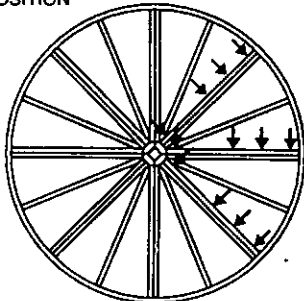

Figure 3.
STEP 3 Place another two pieces together, face down, line up the pre-drilled holes and place the M6X50 bolts through the three outermost and one innermost holes. See Figure 3. **TIGHTEN FINGER TIGHT ONLY AT THIS POINT.** Now make sure all the reflectors are properly joined and flush at each assembly point. **THIS IS VERY IMPORTANT TO ASSURE THE CURVE OF THE REFLECTOR IS MAINTAINED AND SUPPORTED CORRECTLY.** Wrench tighten all bolts.